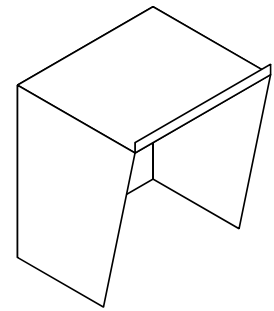

Fig. 4
- Rain hood DFZ1190 (Fig. 4): For protecting the flame detector during outdoor applications